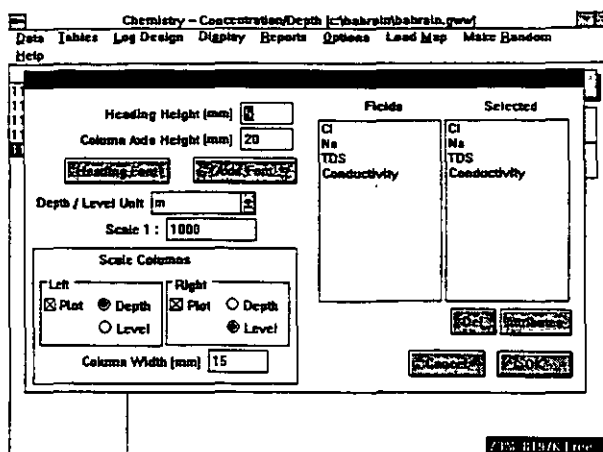

Figure 19-9
- 19.4.1. New Log Design** When you select **New Log Design** GWW opens a dialogue box as shown in Figure 19-9. Some of components in this dialogue apply to the general layout of the display, such as Heading height and column axis height, fonts to be used on the graph, units for depth and level, and scale of the graph. The right side of the dialogue lists all available constituents (taken from Data Structure or from the internal file *Chem_Conc_Depth_Tab*). You may select one or more constituents to display, and by clicking on the button **Attributes** control how each constituent will be presented.
The same dialogue box as the one shown in Figure 19-9 will be displayed and you may proceed with its editing in the same way in which you have created a new design.